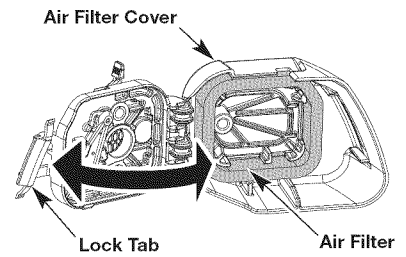

Fig. 21
1. Open the air filter cover by pressing the lock tab in and pulling out on the air filter cover (Fig. 21).
2. Remove the air filter (Fig. 21).
6. Replace the air filter into the air filter cover (Fig. 21).
7. Close the air filter cover by swinging it to the left and then pressing it down until the lock tab snaps into place (Fig. 21).